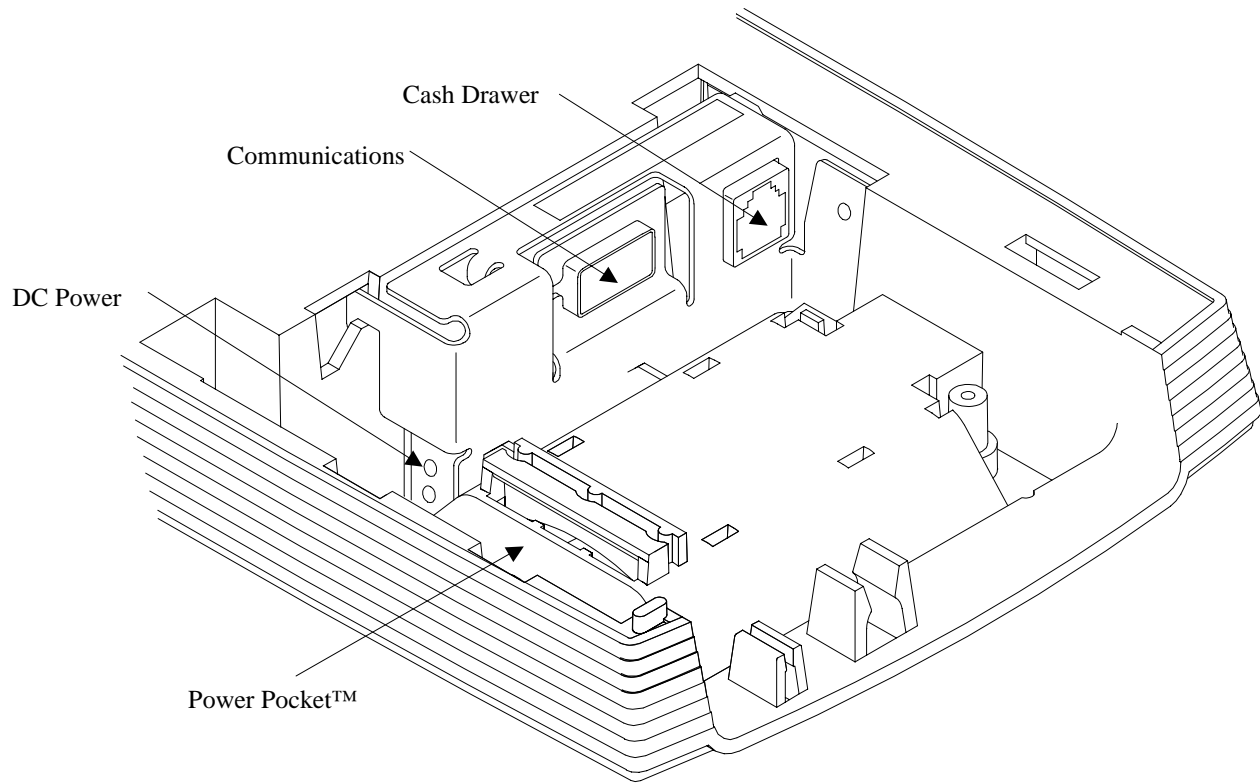

Figure 10 Power and Communications Ports
1. POSjet™ 1000 standard power inter-connect. This connector is located as shown in Figure 10 Power and Communications Ports as shown.